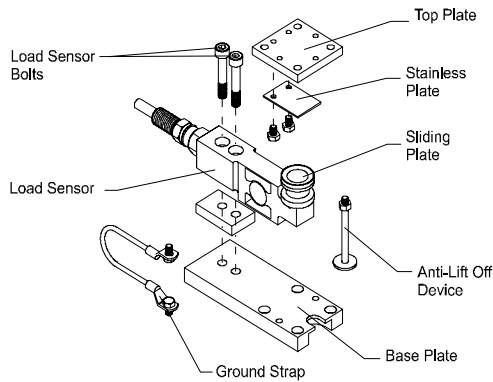

FIG. 14: EXPLODED ISO VIEW OF FREE SLIDING LOAD POINT ASSEMBLY
- Step 1. Use a box end wrench to loosen the nut that fastens the Anti-Lift Off Device to the top plate. Remove the Anti-Lift Off Device. (See Fig. 14)
- Step 4. Use a box end or crescent wrench to remove the two (2) load sensor bolts that fasten the Load Sensor to the base plate. (See Fig. 14)
- Step 8. Screw the two (2) Load Cell Bolts into the base plate until they are finger tight only.
- Step 9. Check the height (B) dimension as measured between the bottom of the base plate and the top of the load sensor, before tightening the Load Cell Bolts with a torque wrench. (See Fig. 14 & Table 3)
- Use a box end wrench and remove the two (2) hex machine screws that fasten the stainless plate to the top plate. (See Fig. 14)